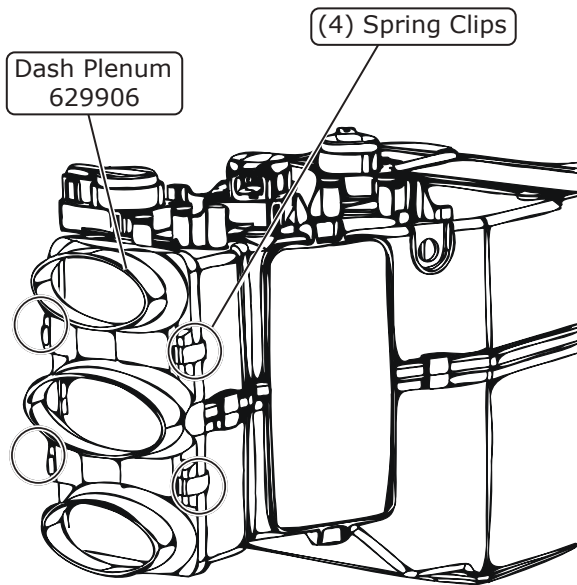

Figure 8
6. Install the dash, defrost and floor plenums onto the module case and secure with spring clips (See Figures 8 - 10, below).